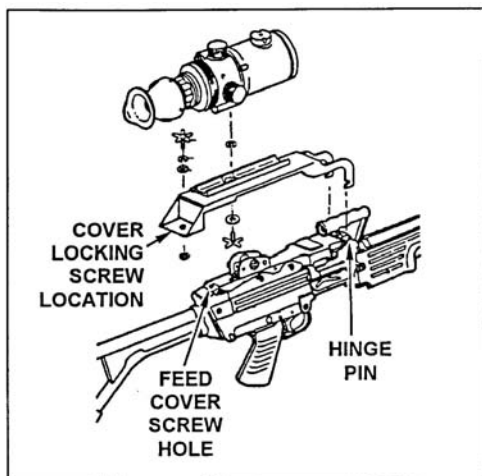

Figure 071-010-0002-1. Installation of mounting bracket assembly
1. Install the mounting bracket assembly (figure 071-010-0002-1).